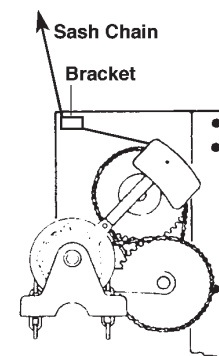

FIGURE 26
- Pull sash chain until the hog ring contacts the bracket and tie the hog ring to the bracket with twine. See Figure 26.